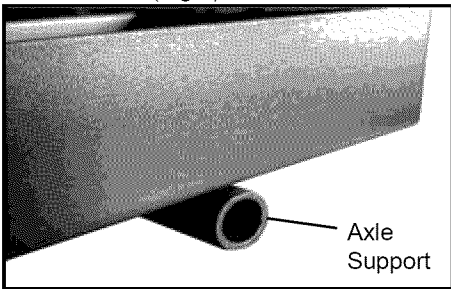

Fig 1.
2. Starting with the bottom panel, place the bottom panel on a sturdy surface with the side lips facing up. Slide the axle through the axle support on the underside of the bottom (Fig 1).